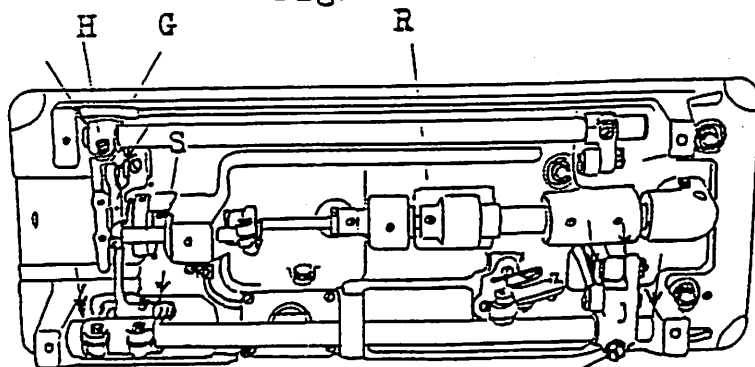

Fig. 3
Loosen the bell crank screw(G, Fig 3) and adjust the height of the feeder by raising or lowering the bell crank(H, Fig 3).
3. Loosen the screw(J, Fig 3).